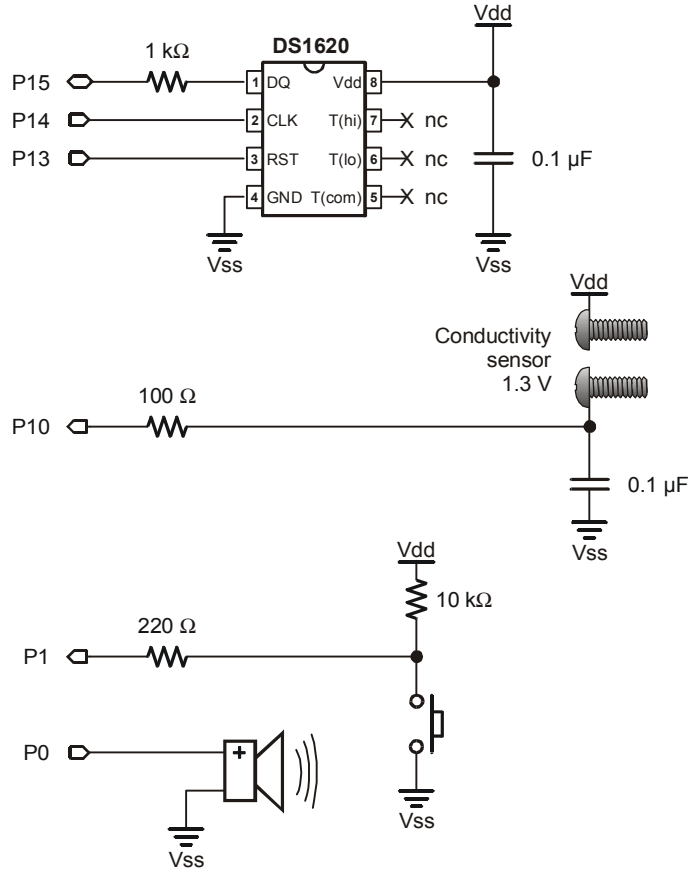
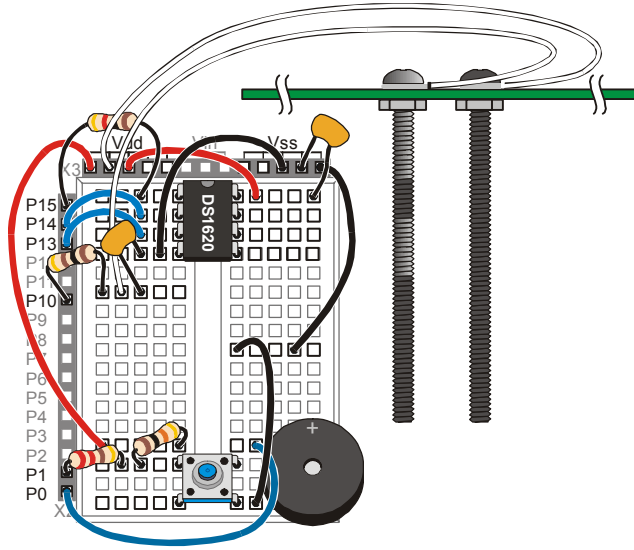

Figure 3-4
Figure 3-5
- √ Build the circuit shown in the schematic (Figure 3-4) and the wiring diagram (Figure 3-5).
- ✓ Now, remove the conductivity sensor circuit that was shown in Figure 3-4 Figure 3-5, leaving all of the other circuits in place.